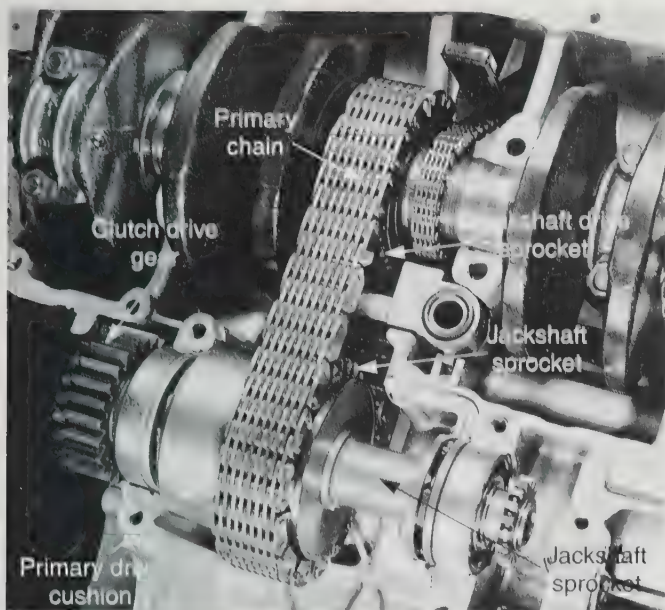

Figure 20-70. In this internal primary drive, the crankshaft, primary chain, and jackshaft are installed together.
12. Check for proper assembly of internal primary drive, **Figure 20-70**.